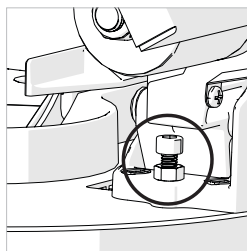

Fig. 22
- Loosen slightly the 0° bevel stop adjustment screw locknut. **(Fig. 22)**